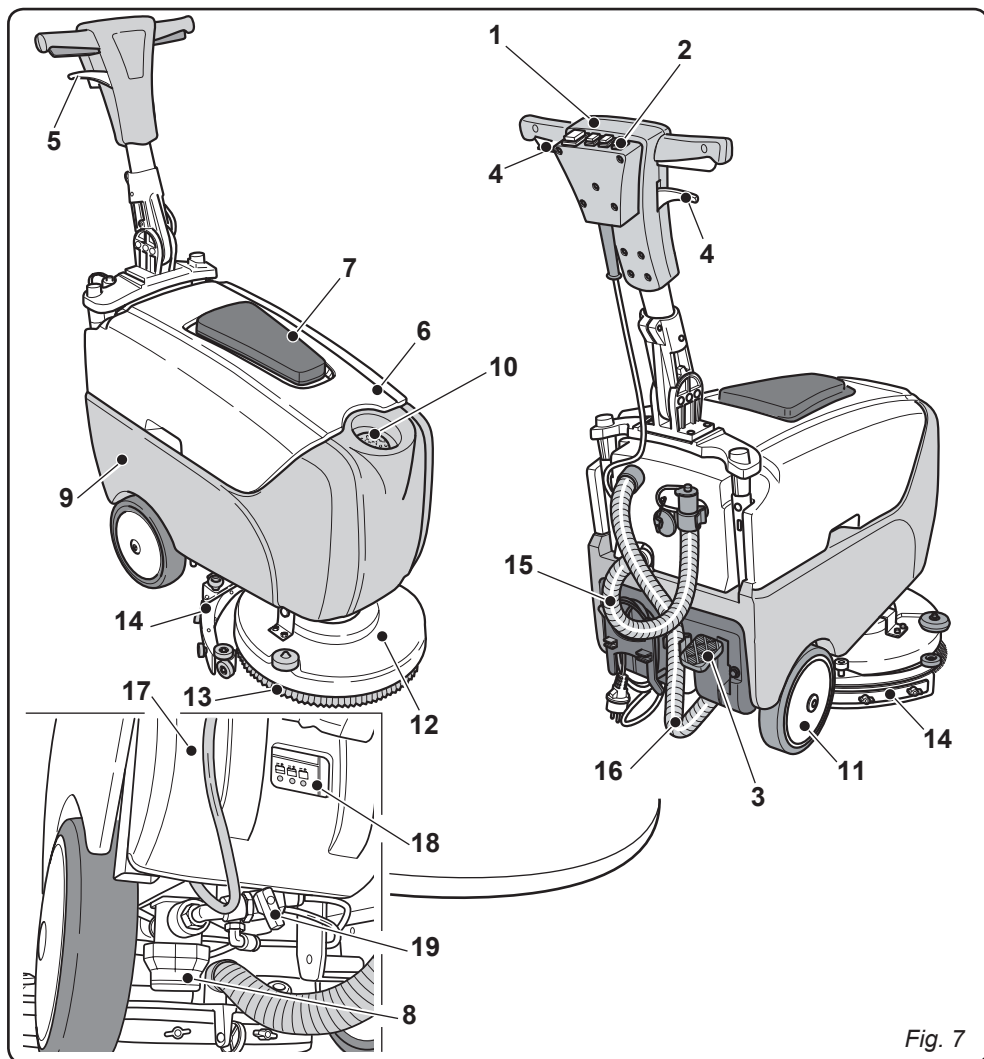

Fig. 7
5.1 GETTING TO KNOW THE MACHINE (Fig. 7)